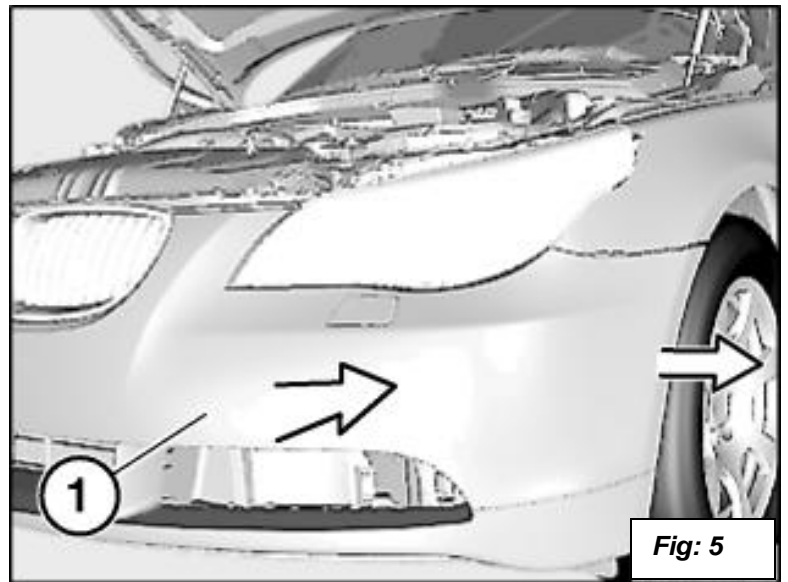

**Fig: 3**
3. Unclip the finishing strip (1) with the rubber bulb seal attached to it in the direction of the arrow. Remove the screws (2). See figure 3